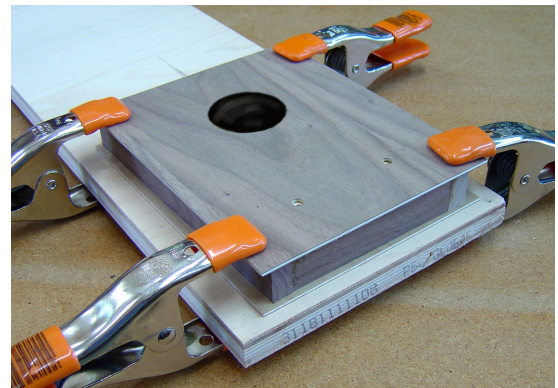

FIG. 6
- 6. Before you close up the box permanently, we recommend signing and dating the inside of the BACK panel. Then you can go ahead and glue the BACK in place, making sure it overhangs the FRAME a little on all sides. Use clamps to hold the parts together firmly. We like to clamp the whole assembly down against a flat scrap of plywood. (fig. 6)